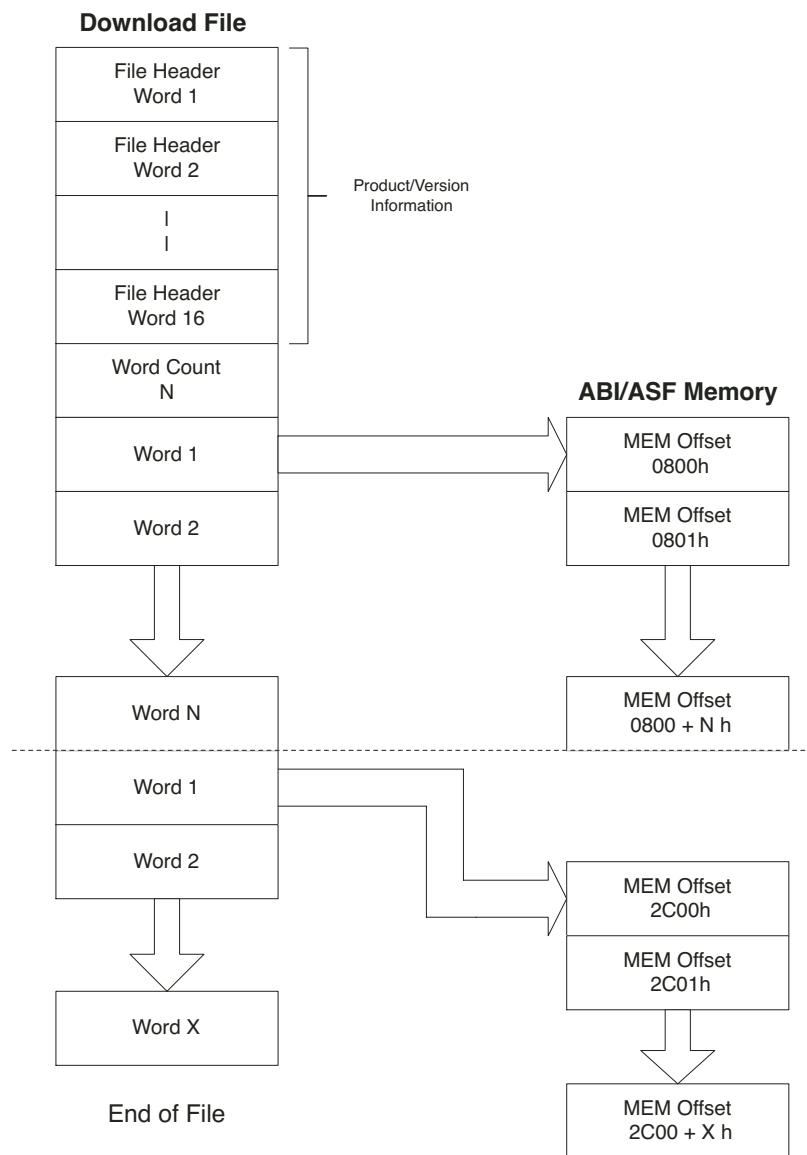

Figure 10.3.1: PC3 Download File Format
The data in the download file has a 16-bit word structure. The first sixteen words make up the file header, containing product and version information. The seventeenth word in the file contains a word count value (N) for the first half of the data in the file. See Figure 10.3.1.